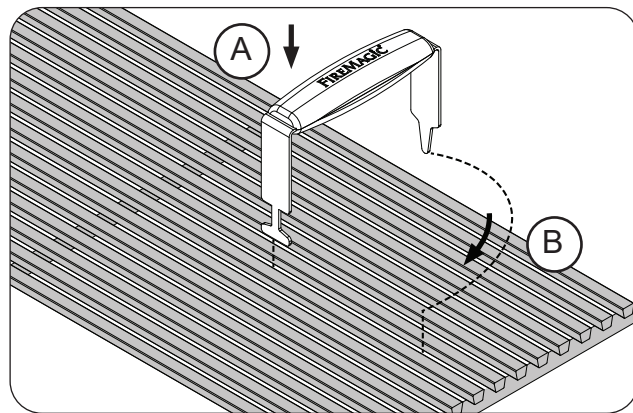
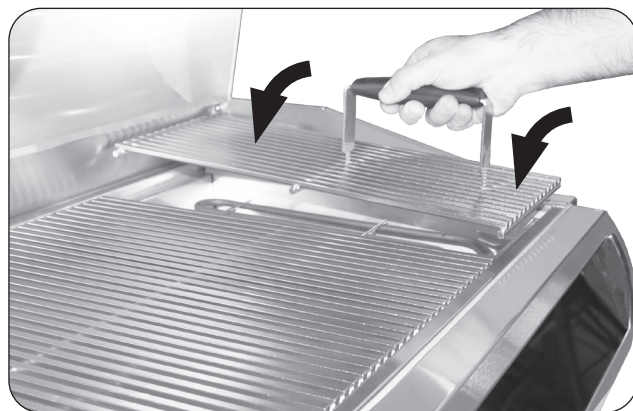

Fig. 35-1 Install cooking grids
Fig. 35-2 Install cooking grids
1. With the prongs facing downward, insert the notched-end of the lifter between two grid rods, then rotate, as shown in Fig. 35-1, A & B.
2. Insert the rear pointed-end of the lifter between the same two rods (Fig. 35-1, B) and carefully lift the cooking grid and place onto the front and rear grid rests of the grill (see Fig. 35-2). Repeat for all other cooking grids.